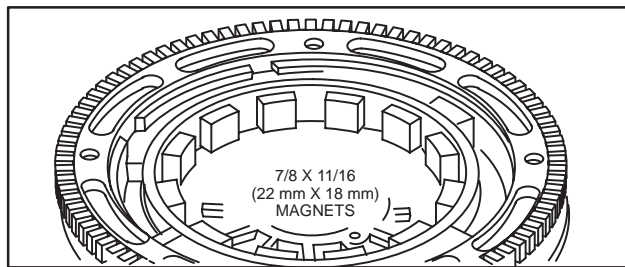

Fig. 8 – Small Magnet
Twin Cylinder Flywheels have a single ring of magnets which provide the magnetic field for the various alternator systems. There are three (3) sizes of flywheel magnets. The size of the magnet determines the alternator output, Fig. 8, 9 and 10.